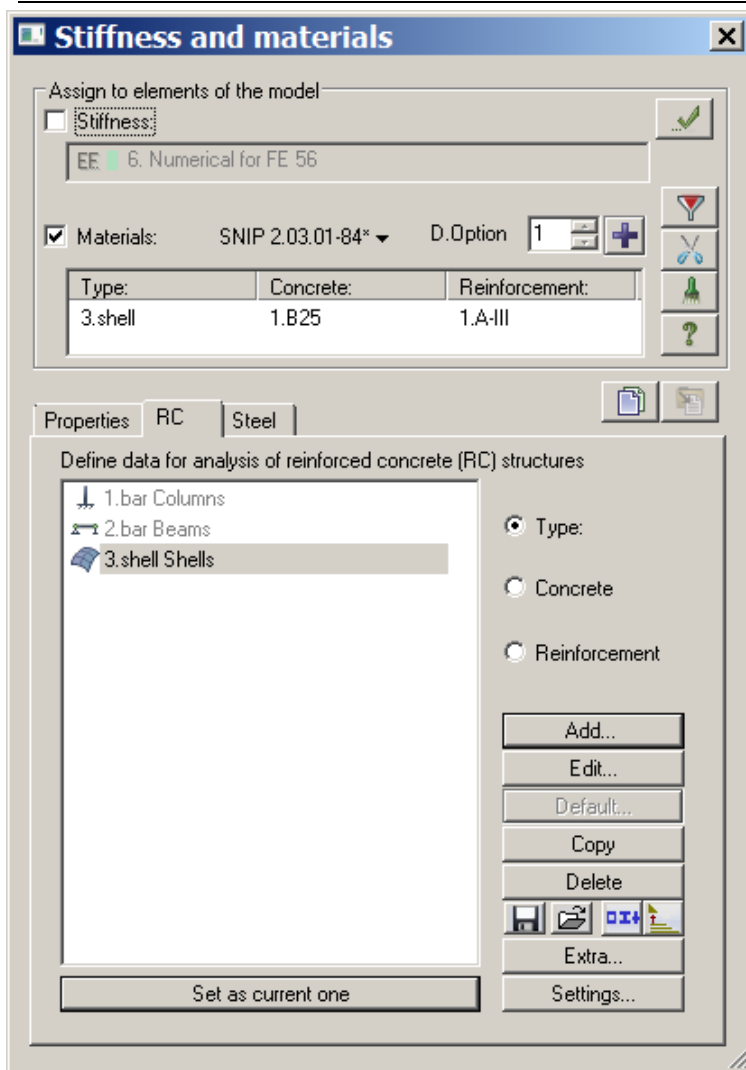

Figure 11.31 Stiffness and materials dialog box
- ⇒ On the **Design** ribbon tab, on the **Design** panel, click **Material properties (RC)** button .
- ⇒ The **Stiffness and materials** dialog box (see Fig.11.31) is presented with the second tab **Define parameters for RC structures** open.